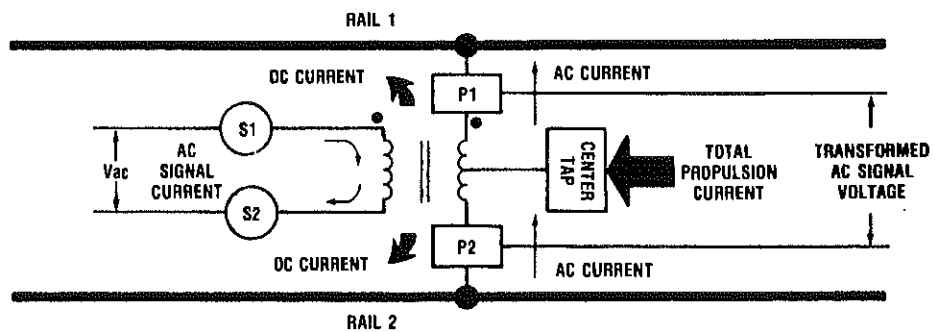

Figure 3-2B
2. Enters from the center-tap and exits at both rails, see Figure 3-2B.